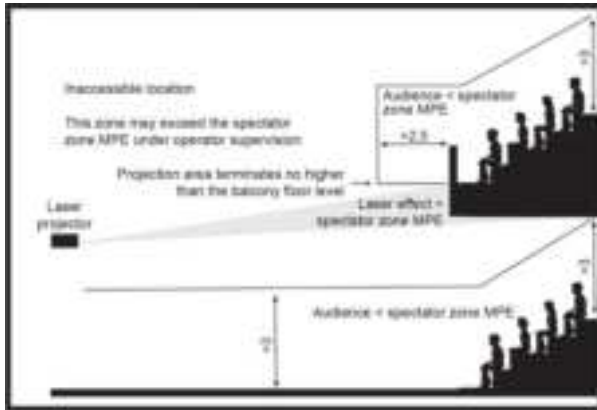

Figure 3 Audience/spectator separation near a balcony with operator in control
4. If a projection area terminates onto a balcony or near a window, where spectators can view the laser effect, and the exposure level at the termination point is likely to be in excess of the spectator MPE, the beams should terminate no higher than the floor level of the balcony if it has an opaque solid barrier. This condition is shown in Figure 3.